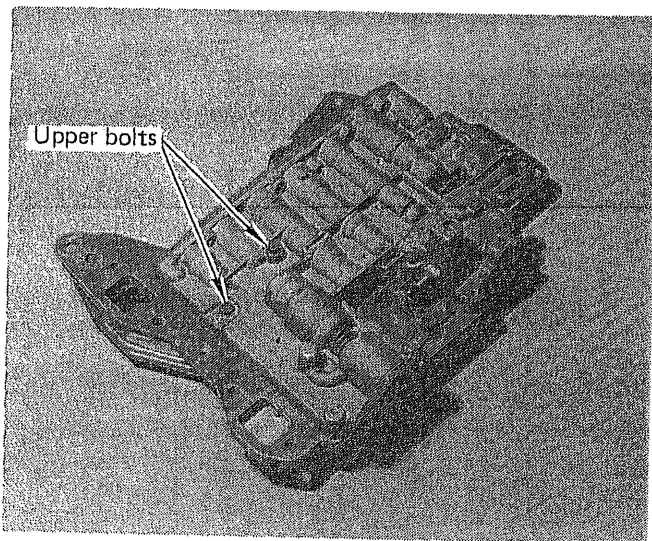

FIGURE 3
STEP 5. Lay the valve body on the bench with the filter side down. Remove the two upper bolts. (See Fig. 3) Note: One is short and one is long. Set them aside.
STEP 19. Turn valve body over and install one short and one long bolt in position (See Fig. 3), tighten to 30 to 45-in. lbs. The valve body is now complete.